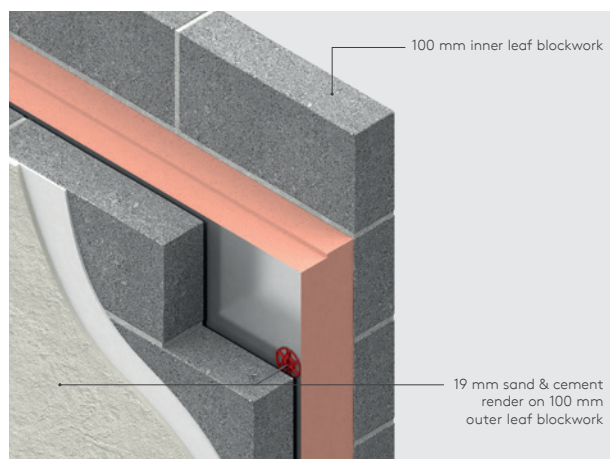

Figure 5
- The Kingspan Kooltherm® K8 Plus Cavity Board should be fitted with the high shoulder of the ship-lapped joint installed against the inner leaf to help prevent moisture from tracking across the cavity. See figure 5 below.